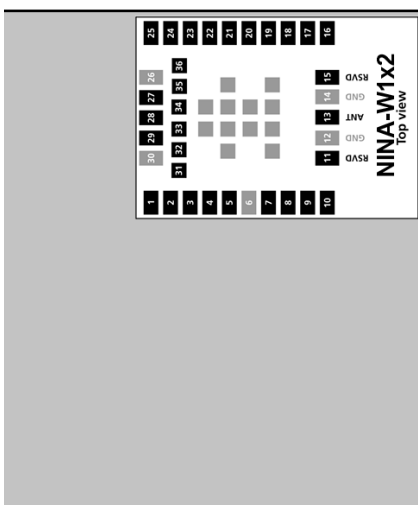

Figure 22: Placement of NINA-W1x2 with internal PIFA antenna
- The module shall be placed in the corner of the host PCB with the antennas feed point in the corner (pins 15 and 16), as shown in Figure 22. Other edge placements positions, with the antenna closest to the edge, are also possible. However, these placements give only a moderately reduced antenna performance compared to a corner placement.